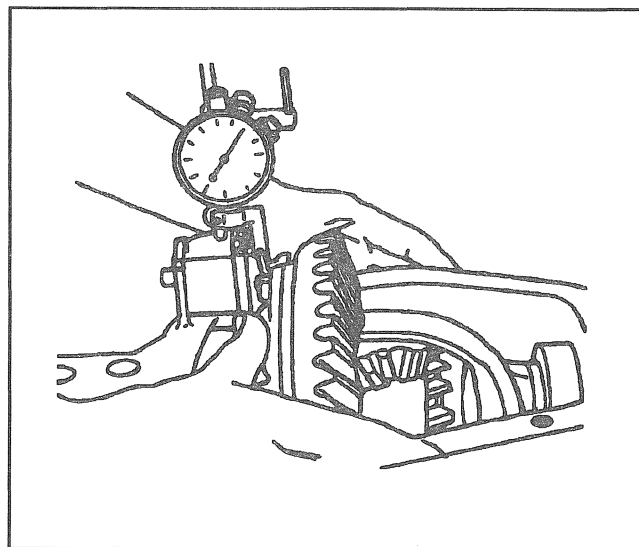

Figure 25—Measuring Differential Movement
2. Assemble the differential (22) with master bearings installed to the axle. The pinion must be installed.
3. Mount a dial indicator with a magnetic base on the ring gear bolt side of the housing (Figure 25).